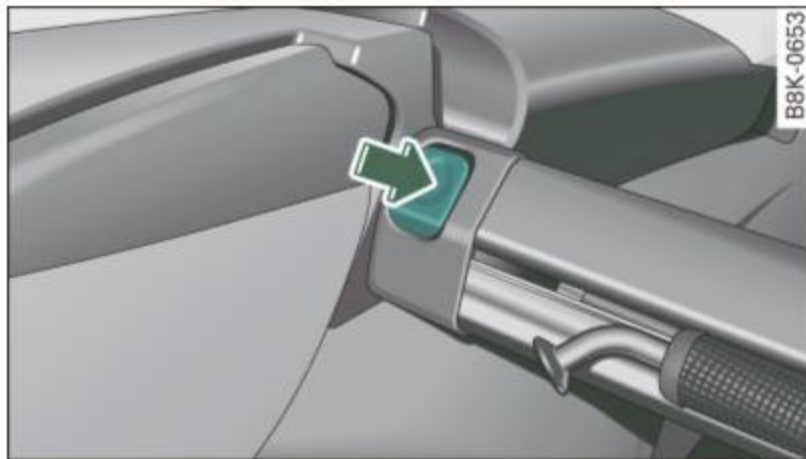

Fig. 83 Removing the partition net
- Press the left and right release knobs ⇒ fig. 83 -arrow- and pull the net upward and out.